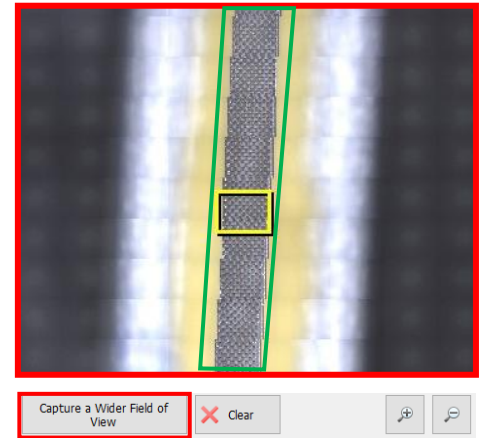

Figure 5: Navigation image of a rough surface
5. In *Figure 5*, the rough surface shown within the green box and the current focus location is shown in the yellow box.
6. If you need a much wider image the system can go one step further and capture a bigger area of your sample when you click on ‘Capture a Wider Navigation Image’ (*fig. 5*).
2. Now register the Navigation image as shown in (fig. 5).
2. Now register a Navigation image as shown in (fig. 5).
Once the scan is complete, the user will have to determine whether the scan was satisfactory. Often it can be obvious whether the scan failed or not. Figure 5 shows a comparison between the optical image and 2 scans, the first with ND filter = 1% and the second with the single scan Manual mode. Figure 5.b shows extreme surface smoothing, while fig.5.c shows minor surface smoothing that can only be detected if the user takes a good look at the
roughness features. *Figure 5.c* is of good quality, but the quality could be improved by using “double scan” instead of “single scan”.
Note: Smooth structures can exist in general, but not for the application represented in *fig.5*. Moreover, the user, when obtaining the optical image and when setting the upper and lower limit during scanning would notice whether a smooth section of the surface exists.